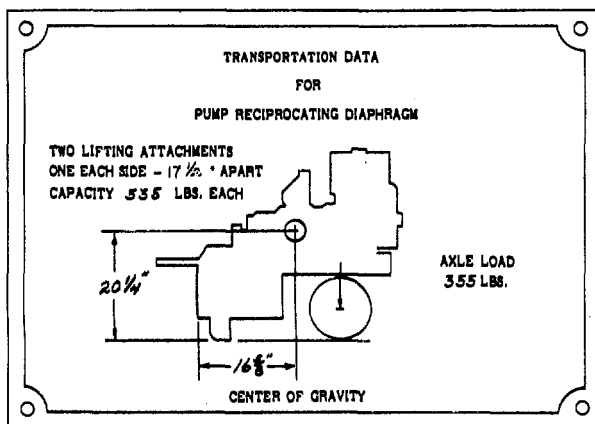

Figure 1A
4. Unpacking and inspection - The pump is boxed and secured within the box. Upon unpacking, make a visual inspection for any damage or theft in transit. Manuals are contained in a canvas bag for each pump. If pump is to be lifted, see the transportation data plate (Fig. 1A) for lifting. Lifting "eyes" are provided on each side of the pump frame. Four 10' long sections of 4" diameter hose with two 4" diameter close nipples are contained in one box for each pump.